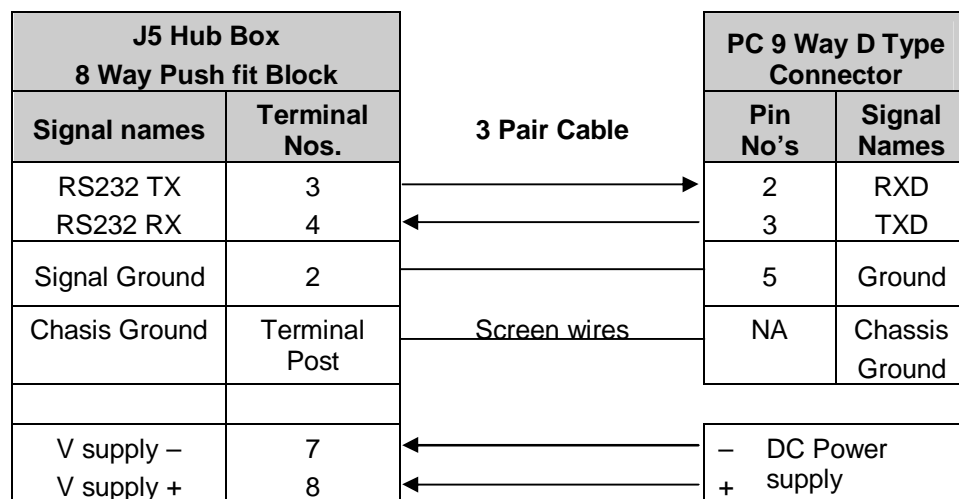

Figure 6 RS232 connections
- RS232                                  Figure 6